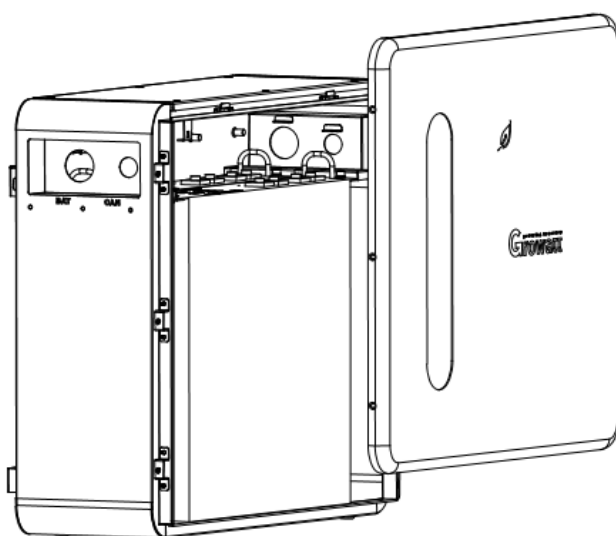
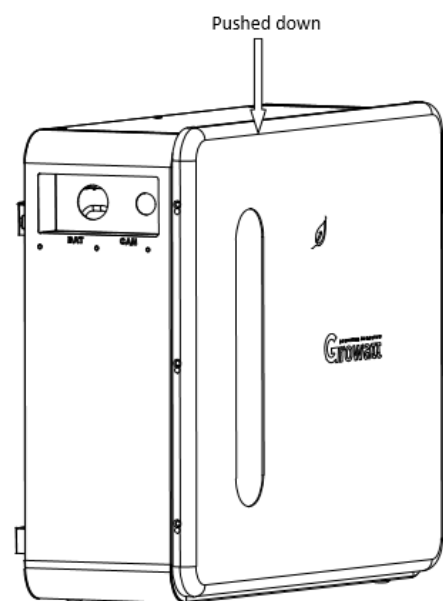

Figure 8
Figure 9
1. Hang the front panel on the two I-shaped brackets at the upper end of the box (as shown in Figure 8). After hanging the front panel, push it down to avoid improper installation of the front panel (as shown in Figure 9).